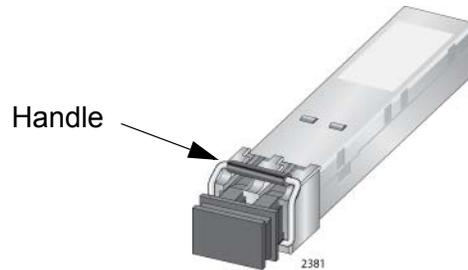

Figure 83. Handle on SFP Transceiver
- To install the transceiver in an SFP slot on the top row of the line card, orient the transceiver with the handle on top, as shown in Figure 83. To install it into a slot on the bottom row of the line card, orient it with the handle on the bottom.